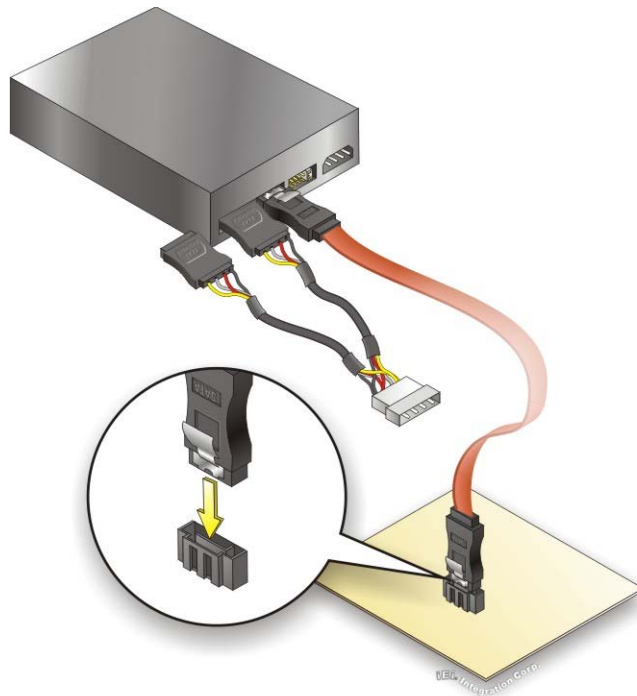

Figure 4-14: SATA Power Drive Connection
Step 3: Connect the cable to the SATA disk. Connect the connector on the other end of the cable to the connector at the back of the SATA drive. See **Figure 4-14**.
Step 4: Connect the SATA power cable (optional). Connect the SATA power connector to the back of the SATA drive. See **Figure 4-14**.